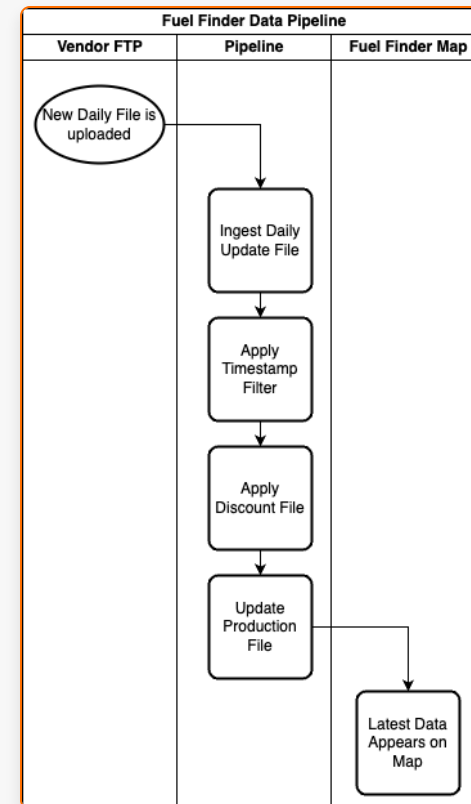

Fig. 5: Data Pipeline Processing Workflow
- Created a data pipeline that processed daily card swipe data to provide up-to-date pricing information (see **Fig. 5**).